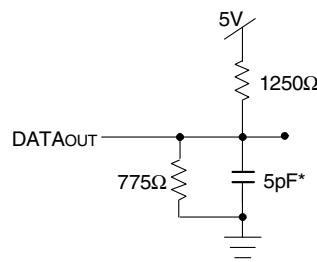

Figure 2. Output Test Load
1. Transition is measured 0mV from Low or High-impedance voltage with load (Figure 2).